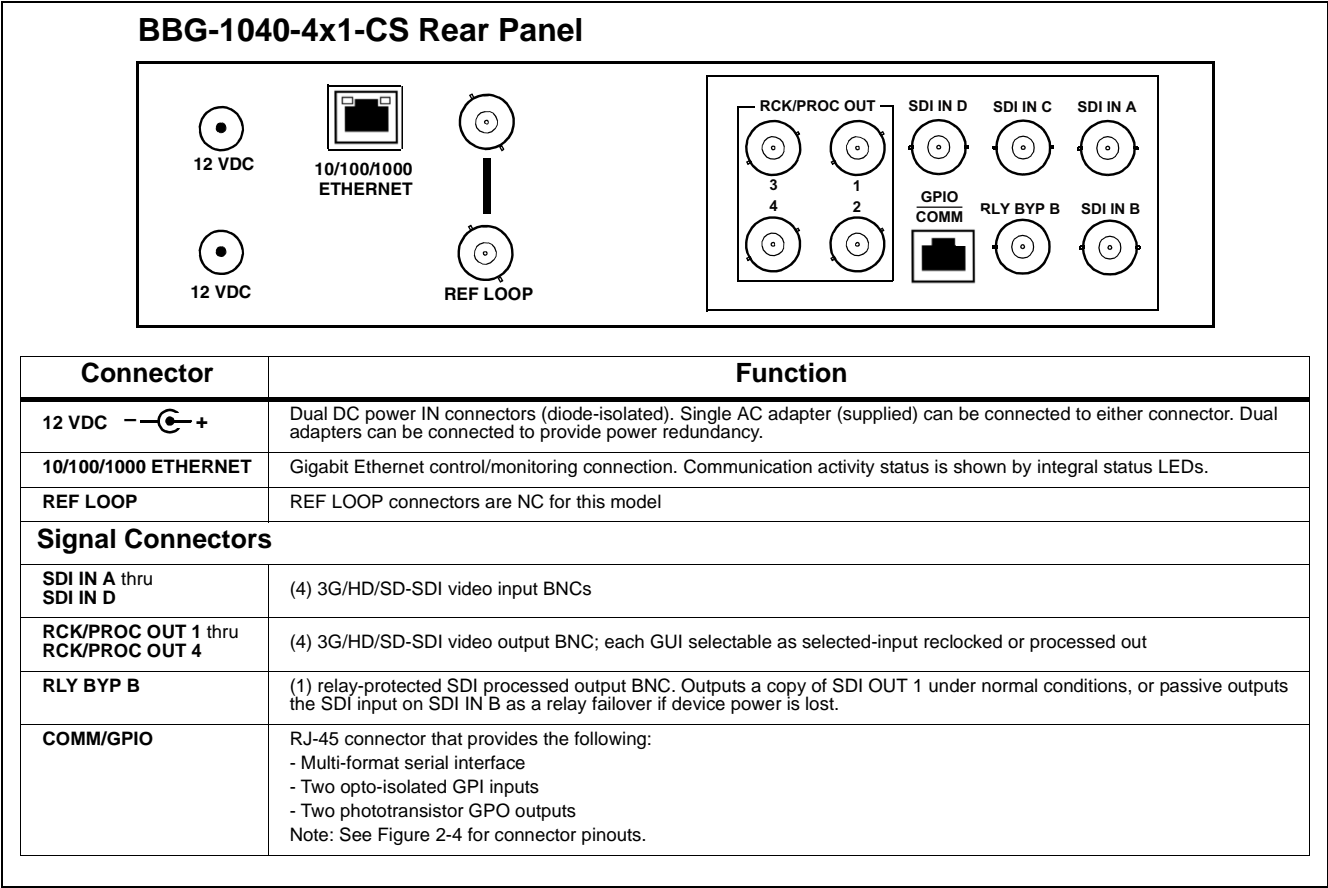

Figure 2-3 BBG-1040-4x1-CS Rear Panel Connectors
2. Connect the input and output cables as shown in Figure 2-3.
Perform rear panel cable connections as shown in Figure 2-3.